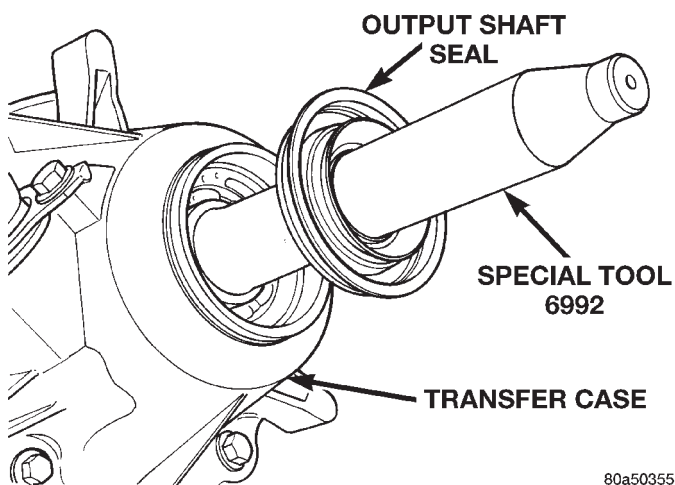

Fig. 77 Output Shaft Seal and Protector
(1) Apply bead of Mopar® Sealer P/N 82300234, or Loctite™ Ultra Gray, to mating surface of rear retainer. Sealer bead should be a maximum of 3/16 inch.
(2) Install rear retainer on rear case. Tighten retainer bolts to 20–27 N·m (15–20 ft. lbs.) torque.
(3) Install rear bearing I.D. retaining ring and spacer on output shaft.
(4) Apply liberal quantity of petroleum jelly to new rear seal and to output shaft. Petroleum jelly is needed to protect seal lips during installation.
(5) Slide seal onto Seal Protector 6992 (Fig. 77). Slide seal protector and seal onto output shaft.